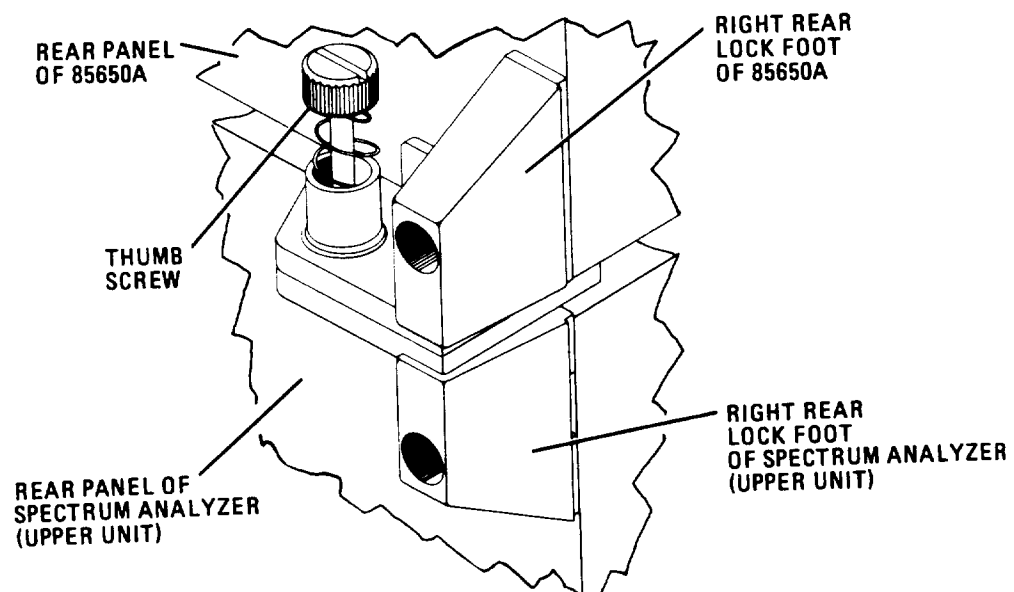

Figure 1-10. Installation of the Lock Feet
3. Interchange the two top rear lock feet on the quasi-peak adapter with the two top rear feet of the spectrum analyzer, as in Figure 1-10.